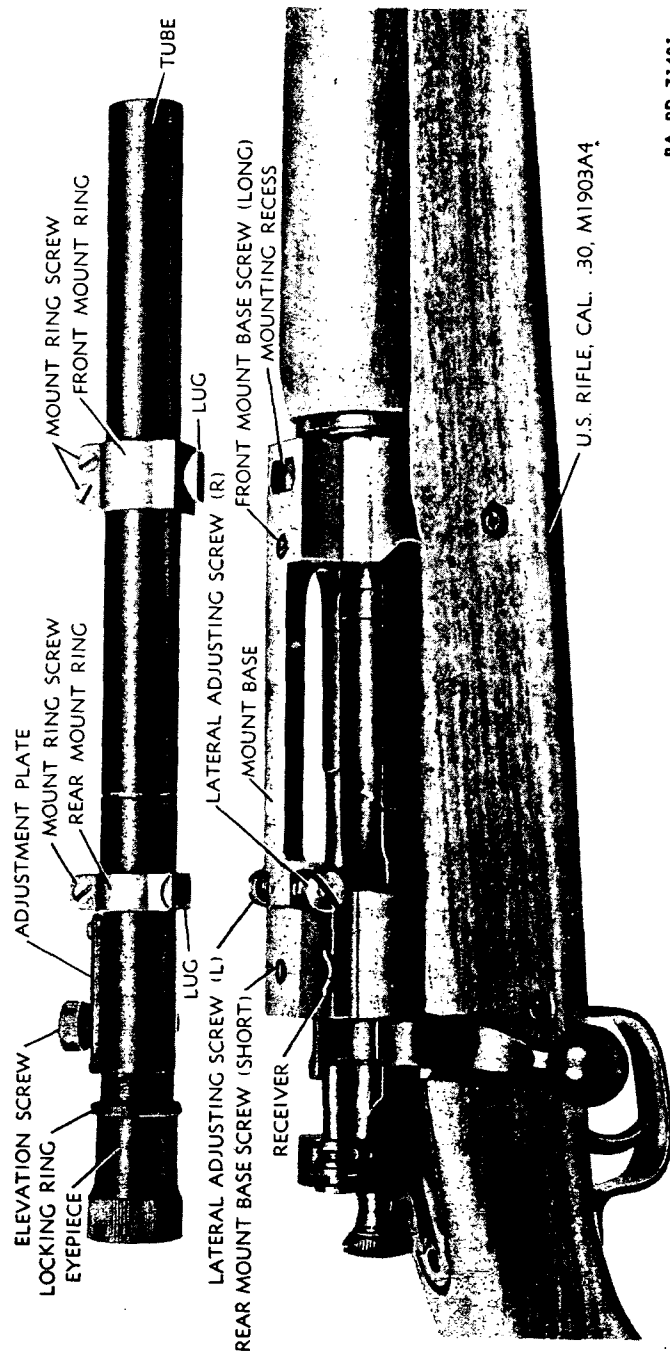

Figure 4 — Weaver Telescopic Sight No. 330 C, and Mount Base Attached to U.S. Rifle, Cal. .30, M1903A4 — Showing Parts
(1) The Weaver telescopic sight No. 330 C (figs. 4 and 6) is composed of a long and a short metal tube threaded together. The short tube called the "eyepiece" threads onto the rear end of the long tube (sometimes called the "sight barrel") and is locked in position by a locking ring also threaded onto the long tube. Optical lens elements are assembled in the forward end and middle of the long tube, and in the rear end of the eyepiece. By rotating the eyepiece in which the rear lens element is mounted, this lens can be moved towards or away from the forward lens elements. The eyepiece can then be locked in place by the locking ring which acts as a jam nut. By this means, the focus of the sight can be adjusted to the eye of the operator to bring the cross hairs of the sight and the image of the target into sharp focus.
(2) Two hairs crossed at right angles are mounted in a metal ring within the long tube to the rear of the middle lens element. This group of parts is called the "reticle." This ring is attached to windage and elevation screws threaded through the adjustment plate screwed to
the outside of the long tube to cover the assembly aperture (figs. 4 and 7). The diameter of the ring is less than the inside diameter of the tube, thus it can be moved up and down and right and left for adjustment of the cross hairs (reticle) by means of the adjusting screws. When sighting the rifle, the point of intersection of the crossed hairs is laid on the point of the target to be shot at, and should coincide with the desired point of impact of the bullet.
(4) The telescopic sight is mounted to the receiver of the rifle by means of front and rear mount rings which fit on the long tube and are clamped by screws (fig. 4). The front ring is clamped by two screws and the rear ring by one screw. There is a dovetailed lug on the bottom of the front mount ring and a flat lug on the rear mount ring, for the purpose of securing the rings and sight to the mount base which is permanently secured to the top of the receiver by screws staked in position at manufacture.
(5) The mount base (fig. 4) is an oblong piece of metal fastened to the top of the receiver by a screw in each end. In the lower face of the rear end of the base a slot is cut which mates with the dovetailed lug machined on the top of the receiver bridge and to which the rear sight of the M1903A3 Rifle is mounted when assembled. The lower face of the front end of the base is machined on a curve to fit the curve of the front end of the receiver. A thin metal shim of the proper thickness is placed between the mount base and the receiver at the front or rear end to level the base with regard to the receiver and bore line. These shims range in thickness from 0.005 ± 0.001 inch to 0.020 ± 0.001 inch. A front mount base screw is threaded through the front end of the base, and then into the receiver. This screw secures the front end of the base and acts as a pivot. The rear end of the base fits comparatively loosely on the dovetailed lug on the bridge of the receiver and can be shifted slightly from side to side on the lug. By this means, the base is aligned at manufacture, so that the sight when mounted will coincide with the bore line of the rifle barrel. A rear mount base screw is threaded through the rear end of the base and into the dovetailed lug on the receiver bridge, thus securing the rear end of the base